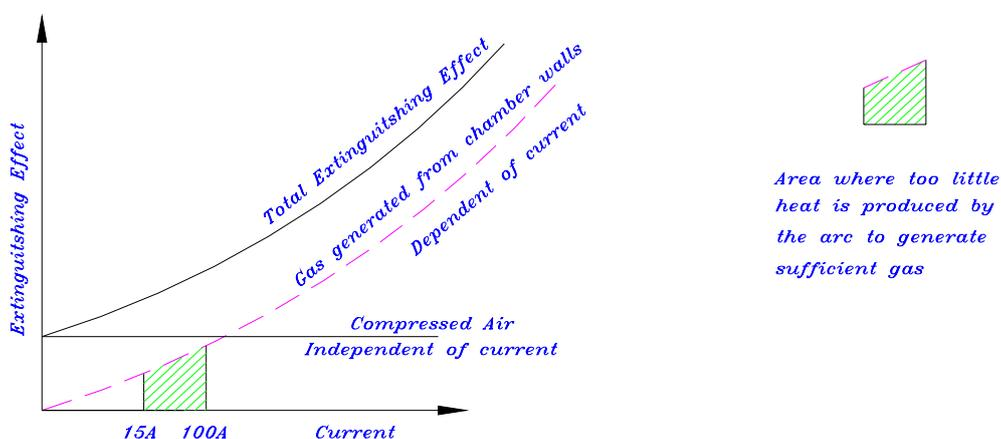

Fig. 2. illustration showing the dual extinguishing effect of the switch isolator.
**When opening the Switch** the opening spring is forced momentarily. The main contact knives leave the fixed main contacts, the auxiliary knives remaining in position, A few milliseconds later the auxiliary knives break the current. The arc occurring in the arc extinguishing chamber generates gas from the chamber walls . The greater the current the greater the strength of this extinguishing gas jet. See fig 2.